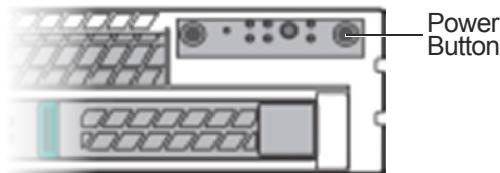

Figure 241 Power Button on the Front Panel of the Physical XMS
1. Verify that the Power button (on the top-right side of the physical XMS, as shown in Figure 241) is not lit.